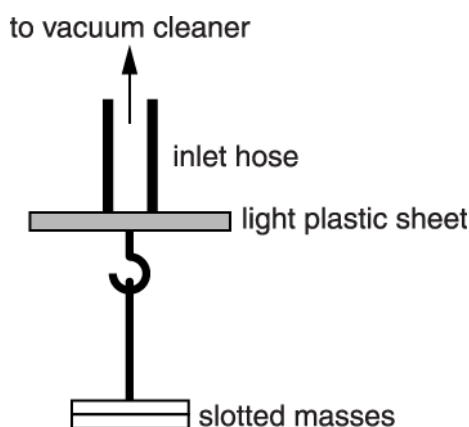

Fig. 12.2
- (b) The student proposes to improve the precision of the measurement by removing the nozzle on the end of the inlet hose, as shown in Fig. 12.2.